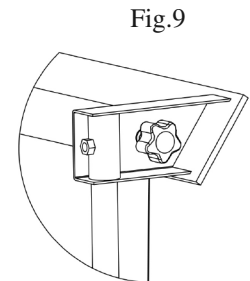

Fig.9
- The target should be fairly taut so that it does not move excessively in the wind. The tension on the target roll can be adjusted with the knob on the left hand side of the upper target roller assembly. Loosen the outer knob, then adjust inner knob clockwise to add tension and counter-clockwise to decrease the amount of tension. Apply just enough tension to keep the target taut. Too much tension will needlessly overwork the motor. Tighten outer knob once adjustment is complete. (See Fig.9)